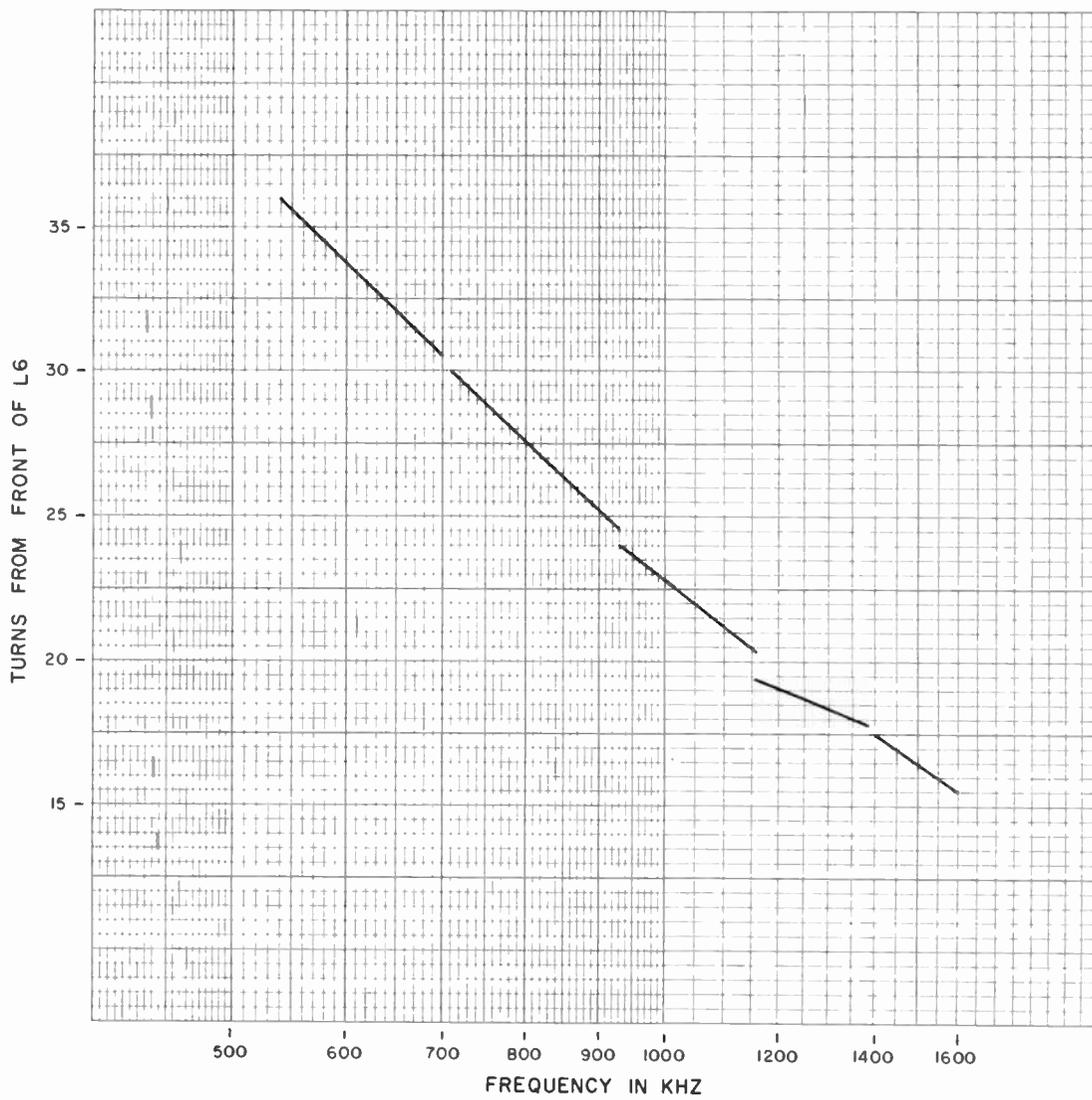

Figure 5-3. Approximate Settings for Strap 1.
- a. Make preliminary adjustments indicated in figures 5-3 through 5-8.